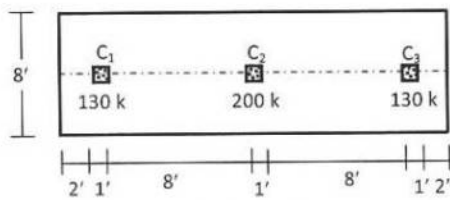

Fig. 3
6. The loads (including self-weight) and arrangement of columns of size 12"x12" of the combined footing are shown in Fig 3. Use WSD to